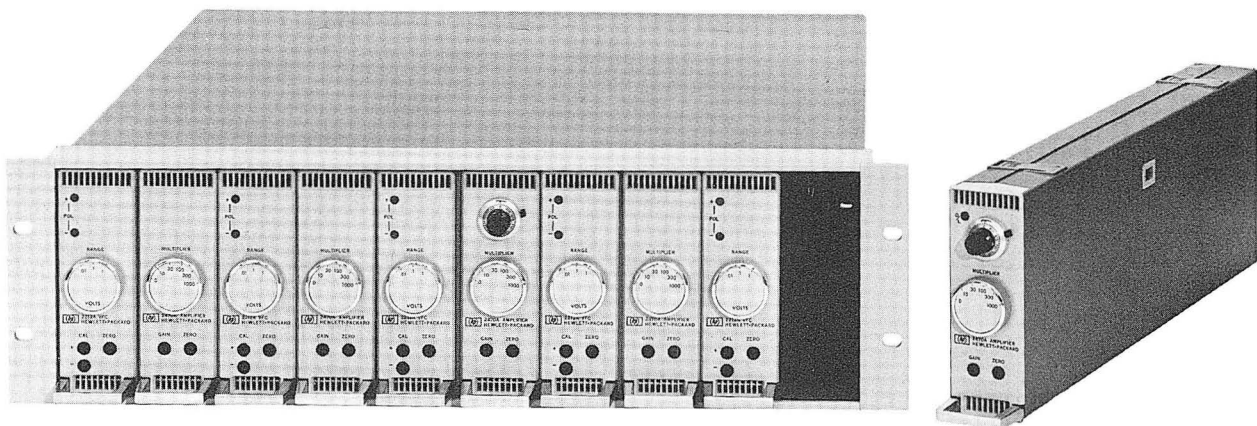

Figure 1-3. HP 12500A Combining Case
1-13. **COMBINING CASE.** The combining case (Figure 1-3) contains up to ten vfc's and includes wired mating connectors for all units. The ac power connections are brought out to a single receptacle at the rear of the case and a 7-1/2 foot NEMA-terminated power cable is furnished. System connections are wired to a rear panel receptacle with capacity for 50 contacts. Sufficient coaxial inserts (30) are supplied to complete input and output signal wiring to the mating receptacles at the rear of the case. Rack mount adapters and a 50-60 Hz fan for cooling the vfc's are included. A 115/230V switch on the rear panel of the case sets the fan for operation from the line voltage being used. The combining case accessory number is 12500A. A blank panel to cover unused space in this case to assure correct ventilation of instruments is accessory number 12504A. Mating plug for the system connector is stock number 5060-2464.